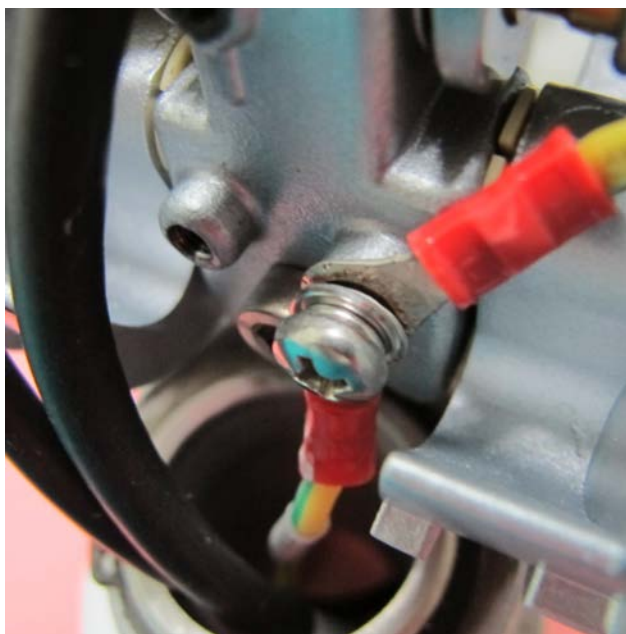

Figure 8-96
- 4.) Reconnect the two Ground cables previously removed - see Figure 8-96 below.